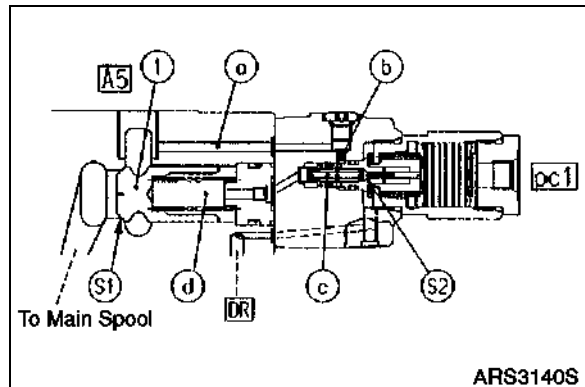

Figure 18
1. Neutral condition (A5, Figure 18 port keeping condition)